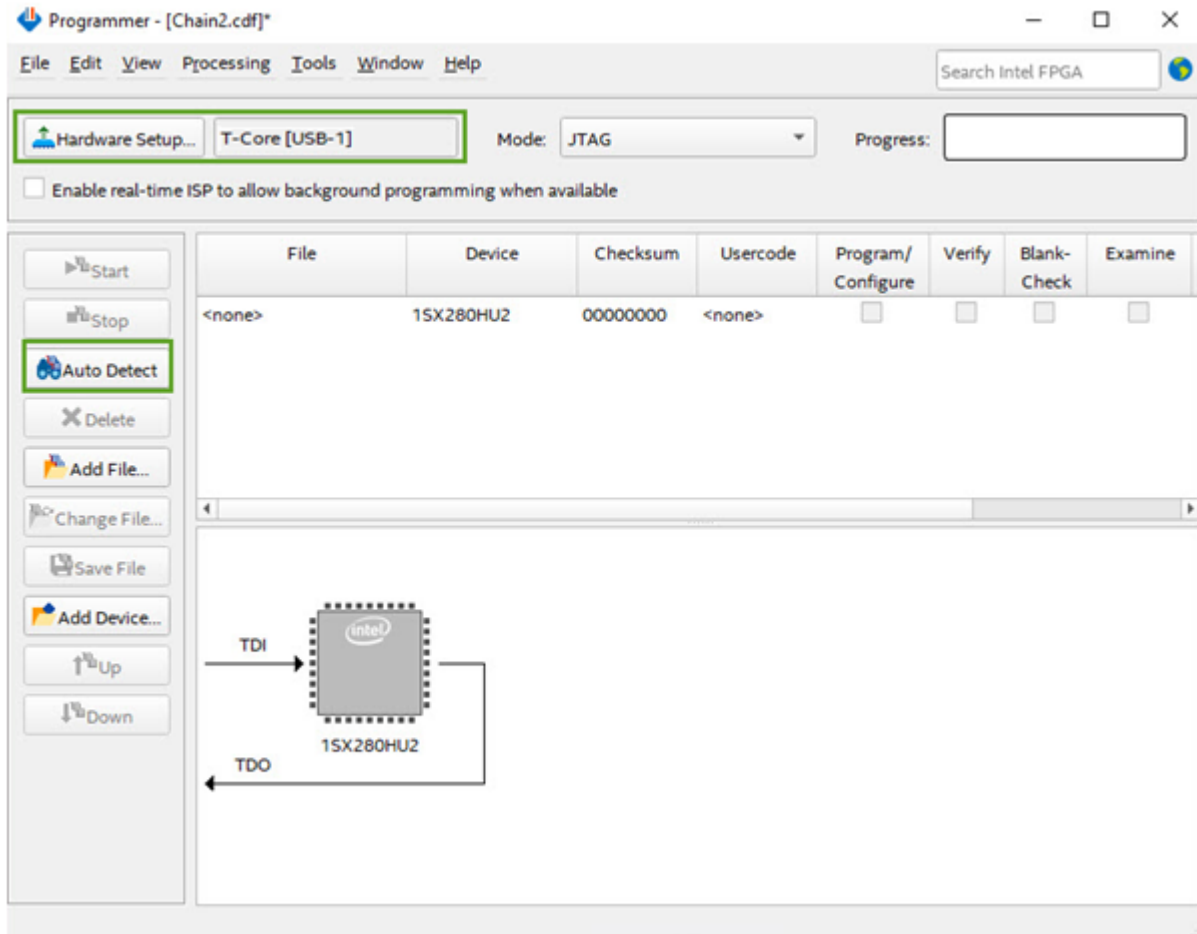

Figure 5-6 Using T-Core board to program the DE10-Pro
5. Open the Quartus programmer on the host PC, press "Hardware Setup" and select T-Core [USB-*]. Then press "Auto Detect" and the Stratix 10 FPGA device on the DE10-Pro will appear in the window, as shown in Figure 5-6.